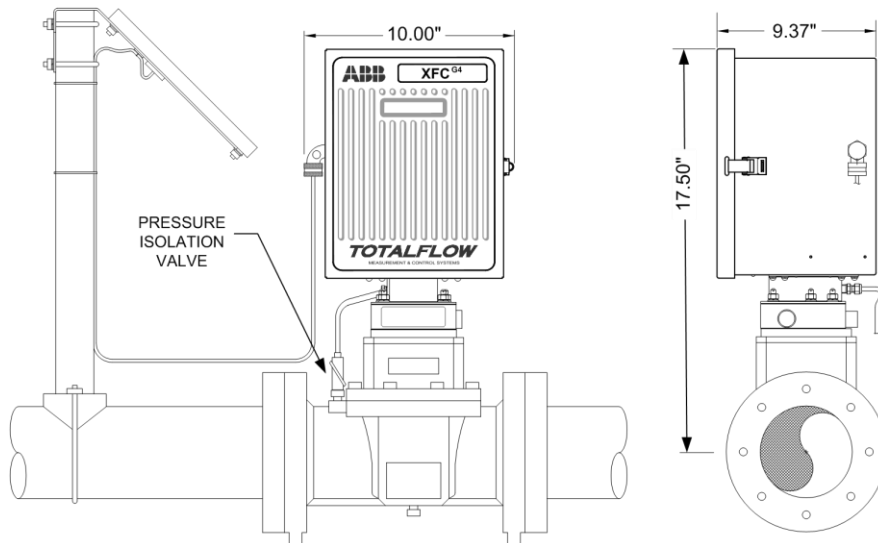

Figure 93: Direct Mount Pulse Meter with Static Pressure Transducer
11. Close and isolate the static pressure to transducer (Figure 93:).